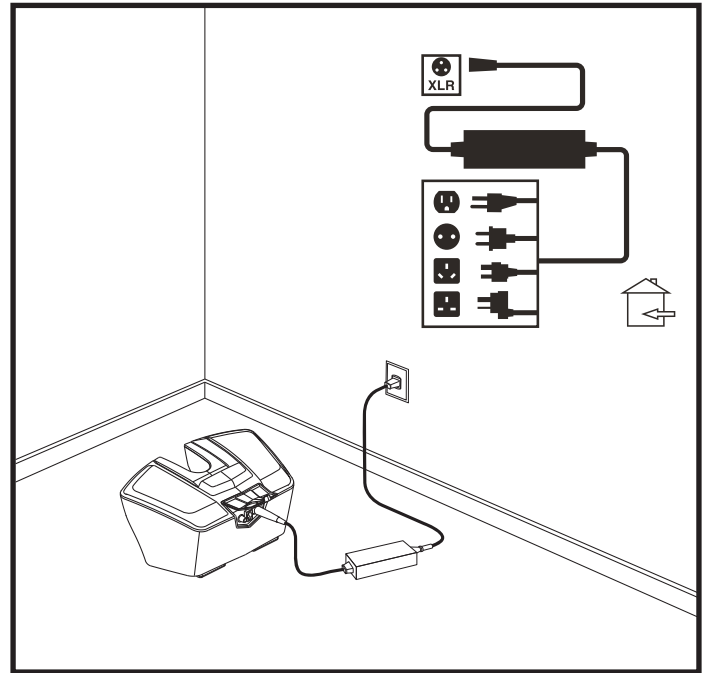

Figure 14. Battery Charging
3. Plug the off-board charger into the battery box charger port. **See figure 14.**